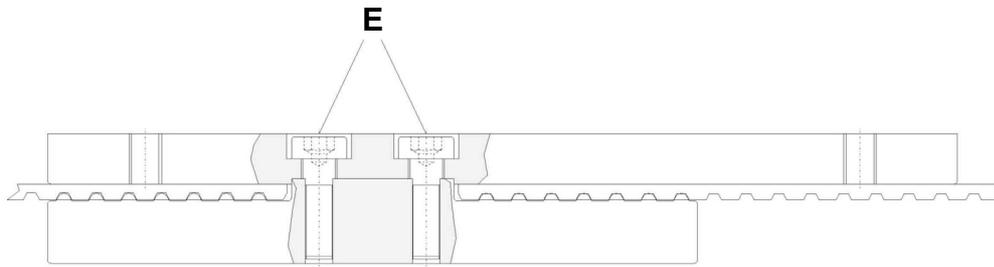

Figure 20: Belt parts fastener (tappet).
- Open the tappet by loosening the connection screws (see *Figure 20, bottom, E*).
- Connect the toothed belt to the tappet (see *Figure 20, top, E*).